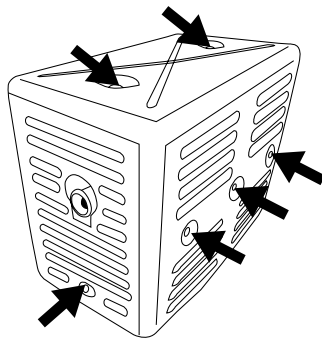

Figure 14: Remove screws holding muffler cover
3. Remove the 6 screws holding the muffler cover in place (see Figure 14).